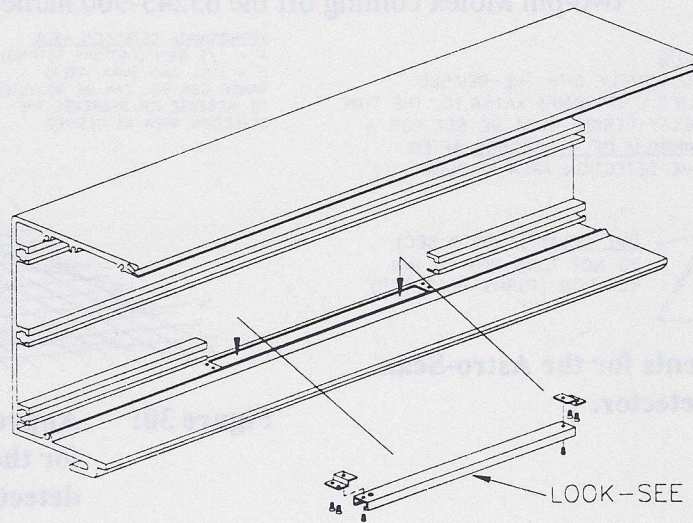

Figure 32 The Look-See is Mounted in a Different Position on Astro-Folds equipped with Magnetic Locks.
3. The Look-See® should be pre-mounted in the factory. If it is not, you will have to mount it as shown in Figure 32. Note that it is not mounted on the bottom of the cover as in the other Astro-Fold models.